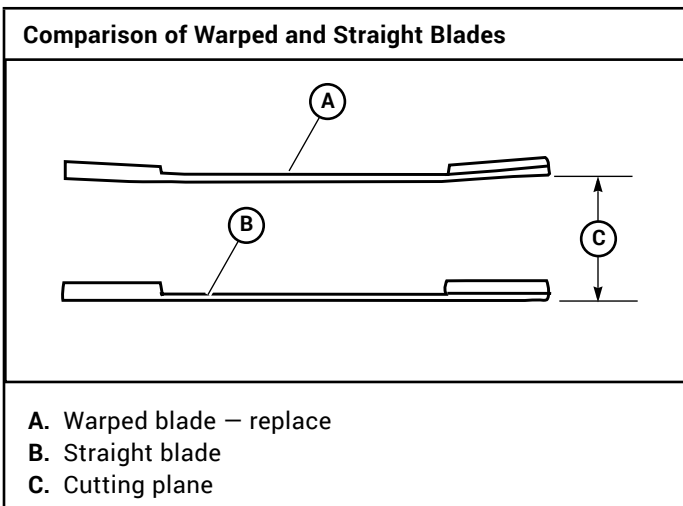
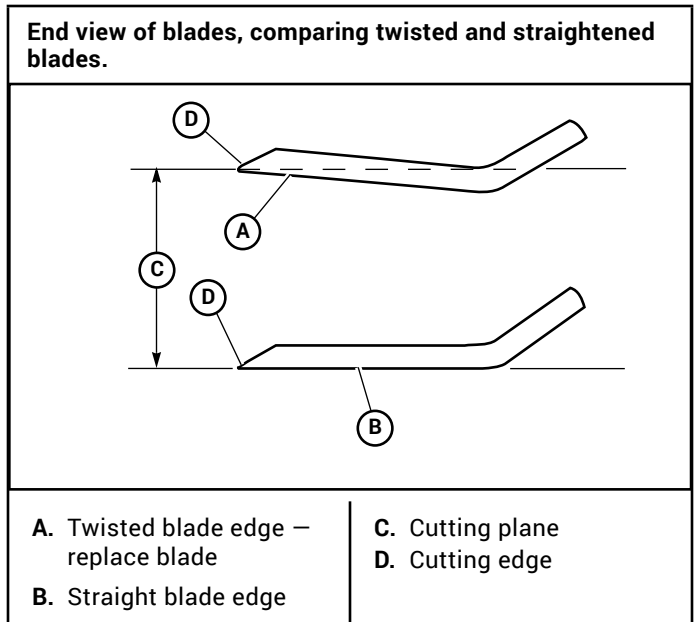

Figure 4-8
Figure 4-9
- A. Lay the blade on a flat surface and check for distortion. Replace any distorted blade. Figure 4-8 & Figure 4-9